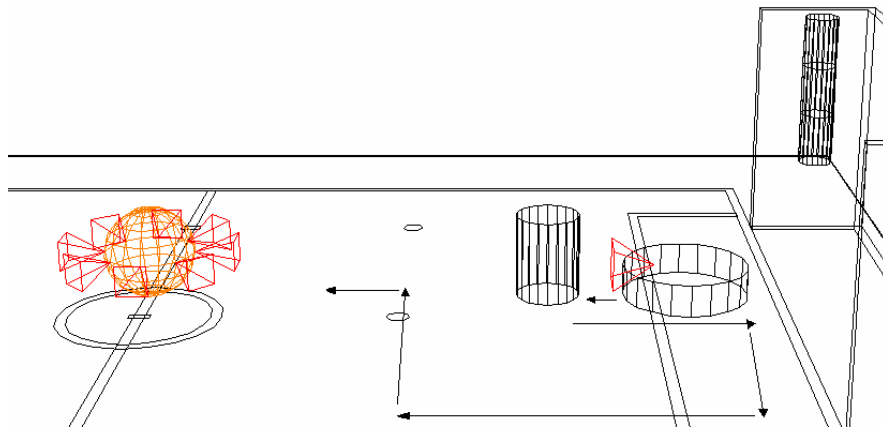

Figure 1: Bouncing Algorithm (Thanks to Mr. Al-Hawaj for the Figure)
1. SimRobot is a simulator composed of two main components; one of which is the Controller, the other is the scene. The scene is just a description of the World will be displayed on the GUI on which the robot will appear and move according to the controller program. The scene contains the dimension of each and every object in the World and their colors and materials, which they are made of. Also, it contains the geometric relation between every one. Moreover, the scene classifies every object in one of the following categories: Sensor, Actuator and different object. On the other hand, the controller is more like the brain of everything. It controls the objects and identifies the reaction of each in different aspects of time. Also, it tries to employ some of logic in the scene. The reaction consists of reading some sensors (S), carrying out some computation ($X=F(S, \dots)$) on sensor data and others, and outputting the computation result as motion command to the robot (such as Move robot to X).
3. The implementation: it is noticed that the controller get called, from a programming point of view, at every point the object passes 1 point of movement. Therefore, we may implement the bouncing algorithm to count the steps that the robot takes in its movement. Also, we may use the usual sensor used in the given example to detect an obstacle. Then, we may bounce the robot by 50 points backward and try to rotate 90 degrees (to the left or to the right) and going around the object again so it can continue its normal line of movement. Figure 1 and the line drawn on it illustrate this motion.